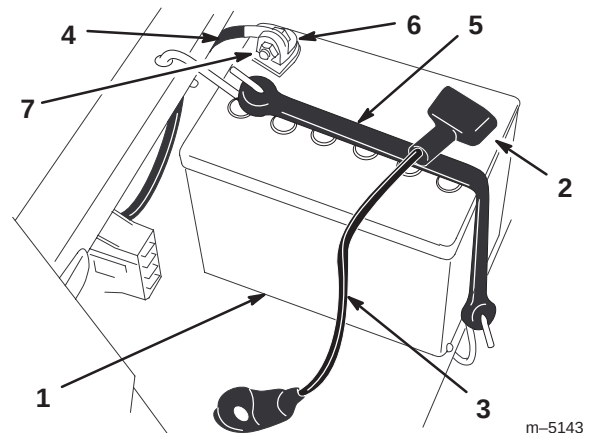

Figure 32
3. Disconnect the negative (black) ground cable from the battery post (Fig. 32).
4. Slide the rubber cover up the positive (red) cable. Disconnect the positive (red) cable from the battery post (Fig. 32).
5. Remove the battery hold-down (Fig. 32) and lift the battery from the battery tray.
1. Position the battery in the tray with the terminal posts away from the control panel (Fig. 32).
4. Secure the cables with 2 bolts (1/4 x 3/4 inch), washers (1/4 inch), and nuts (1/4 inch) (Fig. 32).
- Secure the battery with the hold-down (Fig. 32).